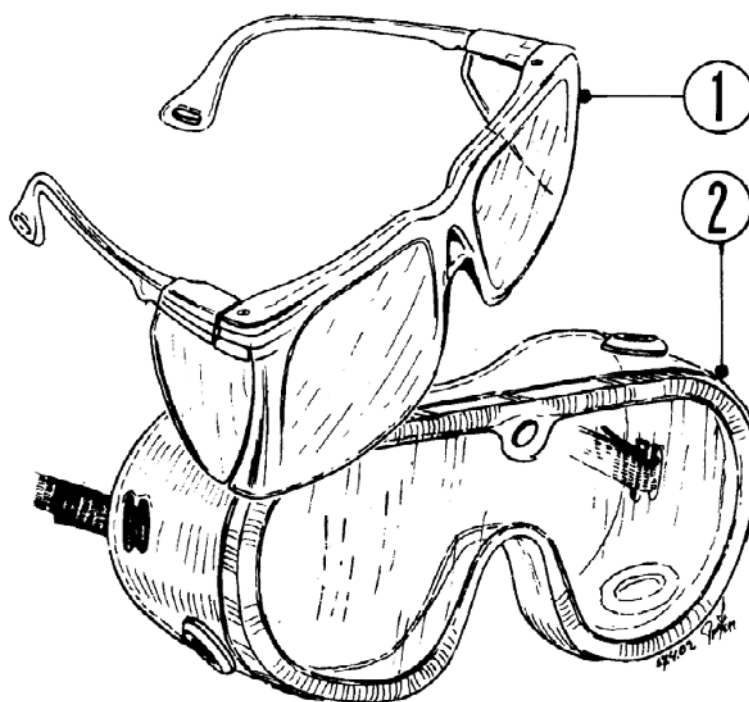

Fig. 10.2.2.1
- Safety glasses, which fit the face (see Fig. 10.2.2.1): Wearing them is strongly recommended when doing jobs such as dressing stones and grinding metal, even if you already wear regular glasses. Indeed, a flying part could still accidentally end up behind the lenses and injure an eye.